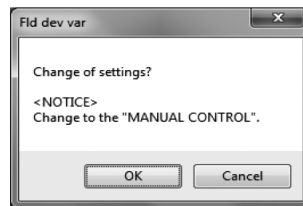

Fig.28
- ⑤ In the temperature "Temp" section, the temperature unit and temperature damping can be set.
- ⑥ Set each item. For the items with a triangle on the right side, click the triangle to make your selection from the drop-down list. For the other items, directly input a numerical value.
- ⑦ After all settings are complete, click the "OK" button to display a message box (Fig. 28). Click "OK" here to change the settings to the inputted values, and to reflect the changed setting values in the flowmeter's output. For the sake of safety, if the flowmeter's output is used to control valves or other such parts, then change that control loop to manual control so that the control loop is not influenced by the flowmeter's output.